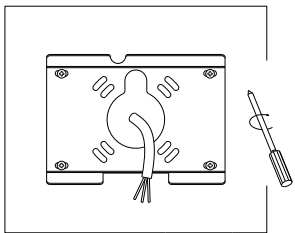

Figure 9
3. Align mounting bracket with hole; tighten screws. (Figure 9)